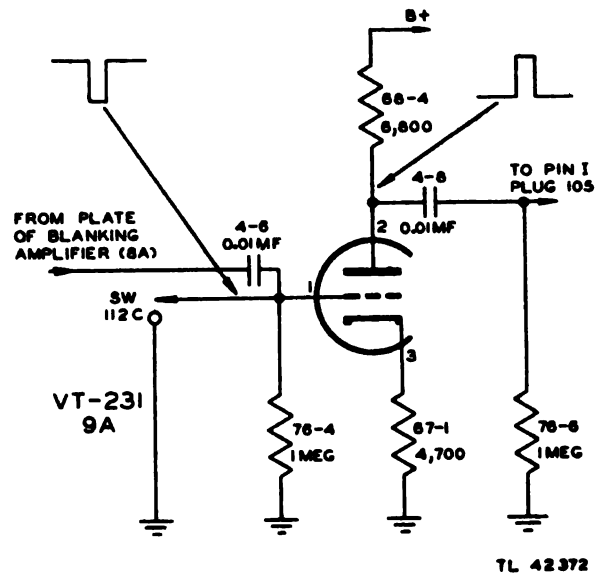

Figure 61. Brightness correction amplifier, 9A, partial schematic.
b. The brightness correction amplifier tube 9A, is a conventional resistance-capacitance coupled amplifier. (See fig. 61.) Since the increase in brightness must be for the same period of time as the IFF signal is fed to the range oscilloscope, the negative